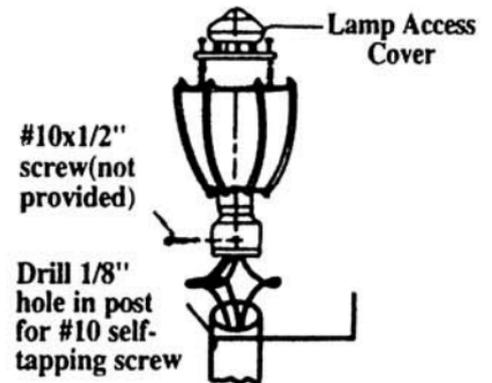

FIG.7
4. Secure fixture to post with # 10x1/2" self-tapping screw. (not provided) (FIG.7)